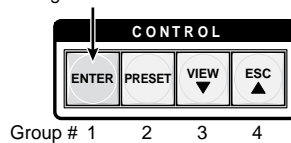

Figure 3-31 — Select an I/O group
3. Press and release the Enter button to select group 1 (figure 3-31).